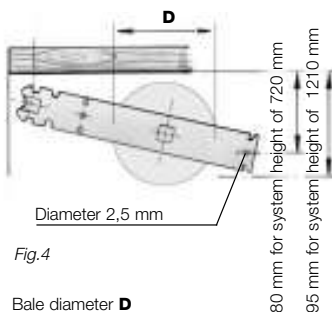

Fig.4
- Mark the position of the back fixing hole and pre-drill a hole 2.5 mm in diameter. For this, use the end bracket as a template and push it up against the positioning dowels up to the stop. (Fig.4)